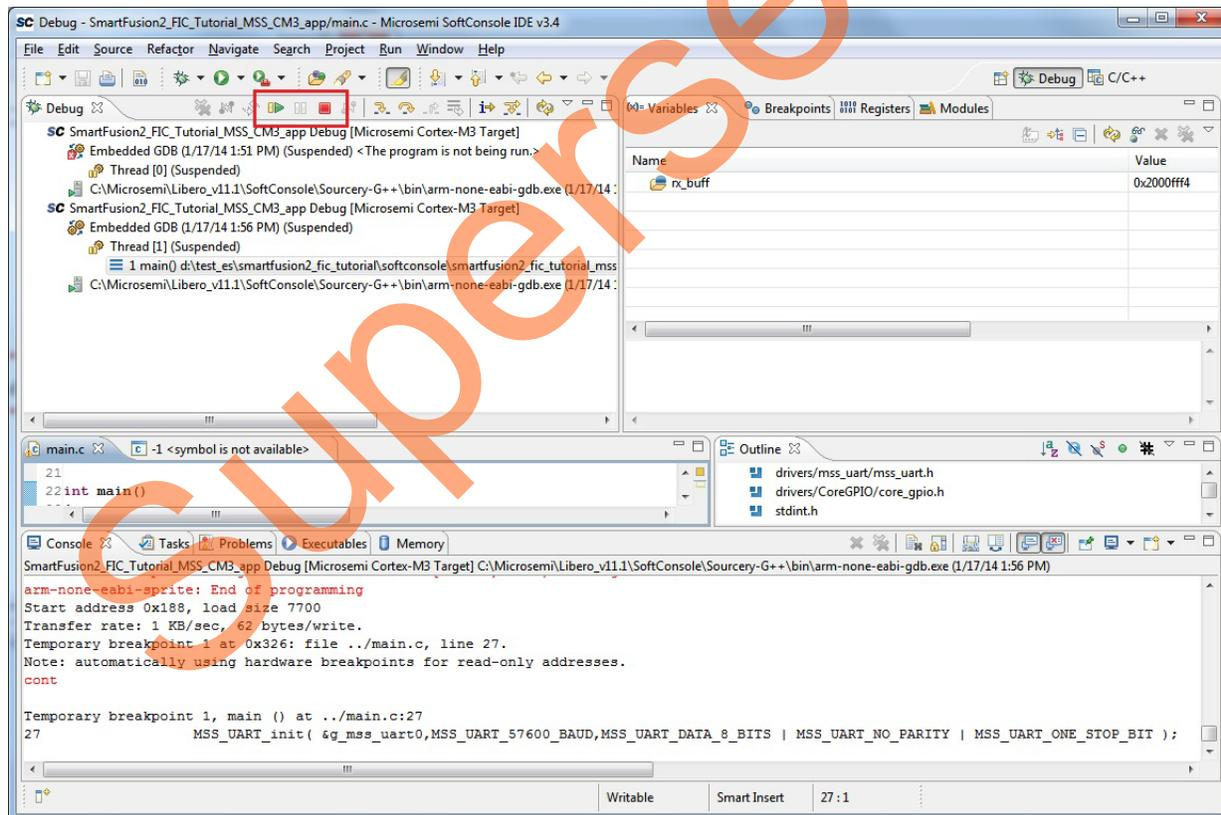

Figure 51 • Debug Perspective
- Debug Perspective is similar as shown Figure 51.